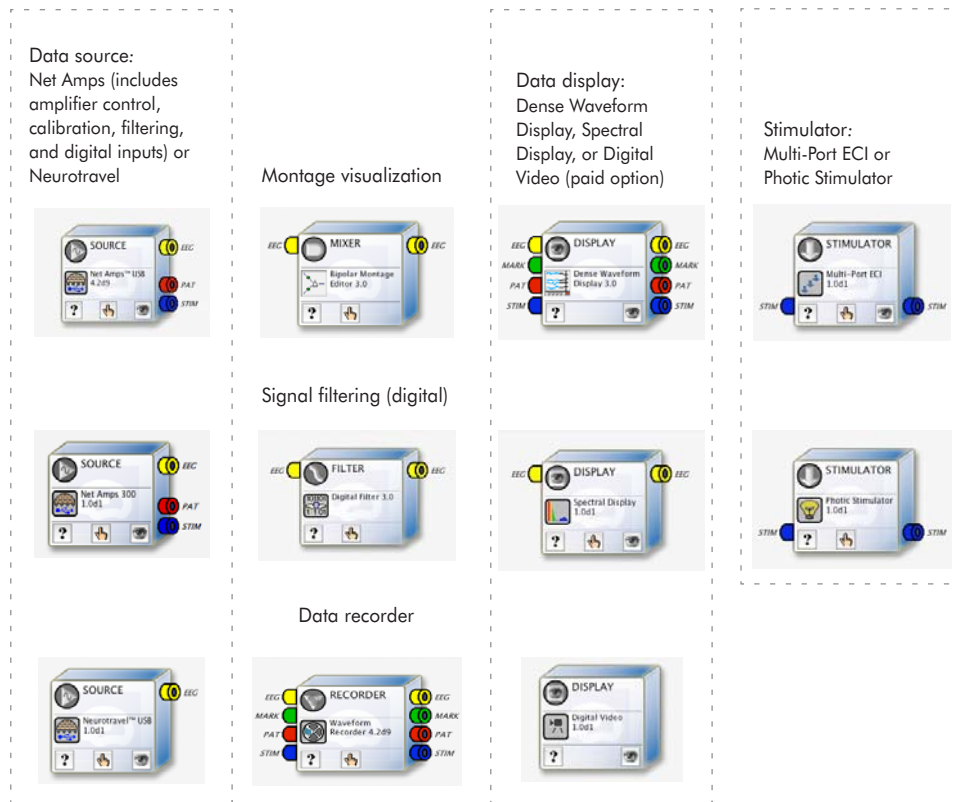

Figure 2-6. Workbench devices
- Each device has a particular function (Figure 2-6).